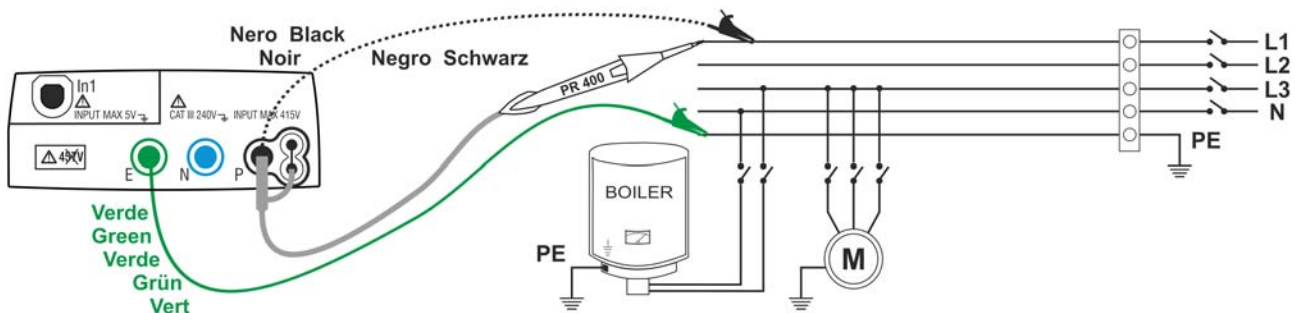

Fig. 8: Instrument connection by means of single cables and remote probe
6. Connect the test leads to the ends of the conductors to be tested as in Fig. 8 and Fig. 9.